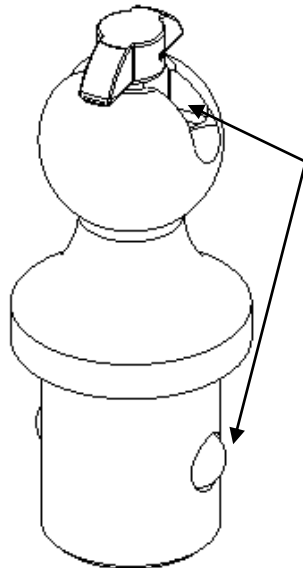

Figure 1
- 1) Move handle to unlocked position shown in Figure 1, and insert Gooseneck ball into receiver opening.
- 2) Using the gooseneck ball grease point shown in Figure 1, spray White Lithium grease.